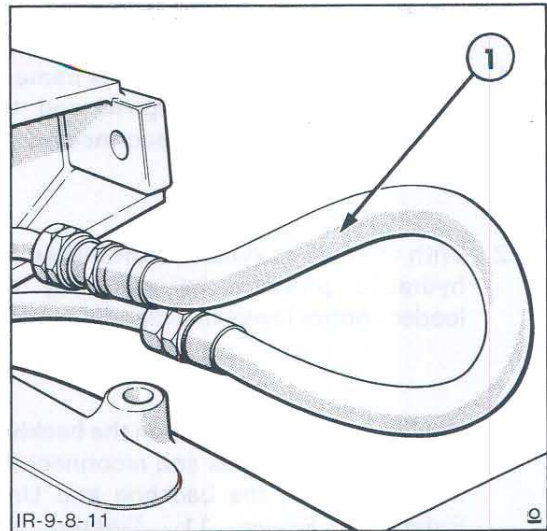

Figure 12
13. Connect each hose to the open fitting on the component to which that hose is fitted, Figures 12 and 13. This will complete the hydraulic circuits and prevent entrance of dirt and oil loss. Ensure the hoses are not twisted or kinked during installation.